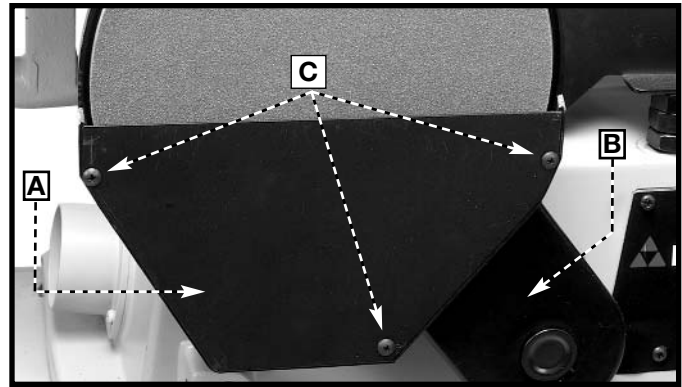

Fig. 13
Use three M4.2 x 13mm pan head screws (C) to attach the lower cover (A) Fig. 13 to the belt and pulley guard (B).